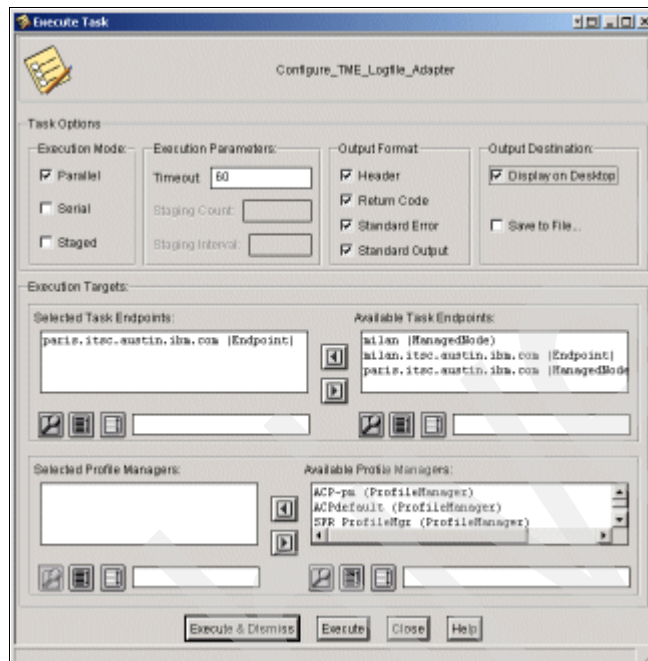

Figure 8-62 Execute Task window after selecting output destination and task endpoints
8. Select the endpoint instances of the FTAs from the Available Task Endpoints list and move them into the Selected Task Endpoints list. The Execute Task window will look similar to Figure 8-62.